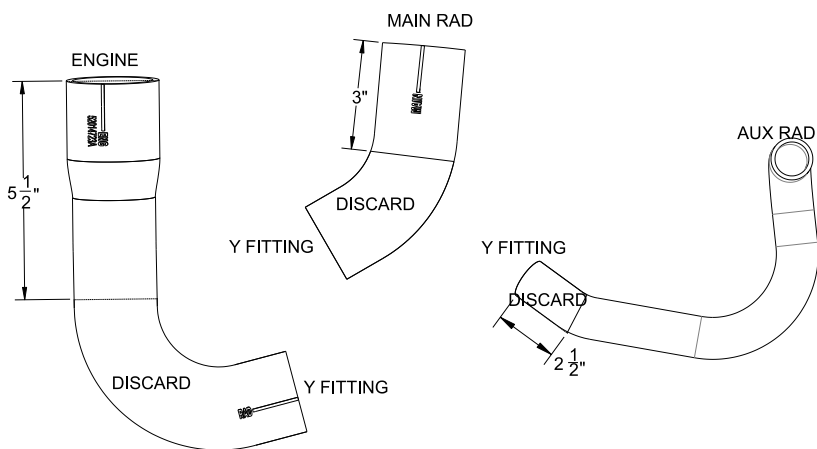

Figure 4.8
- Cut off 2 OEM shrink clamps and disconnect the 3 hoses from the Y fitting, modify as per Fig. 4.8